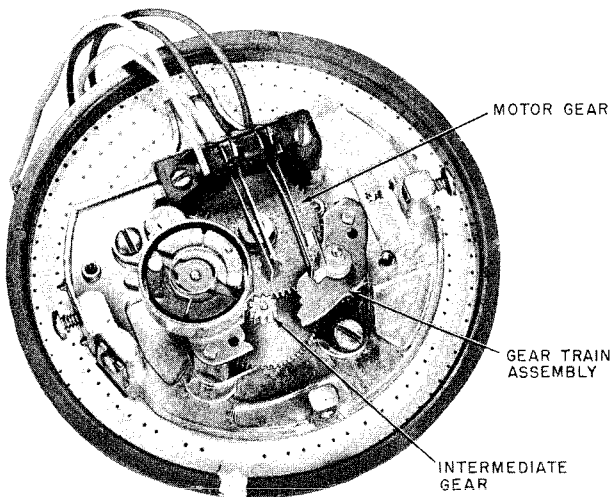

Fig. 24—7-Type Dial Gear Mesh
3.28 In 6- or 7-type dials, the motor gear meshes with the intermediate gear on the governor gear train assembly (Fig. 24).